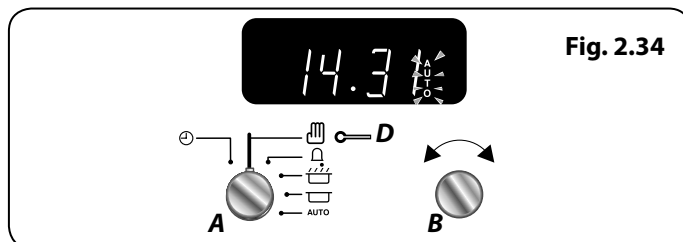

Fig. 2.34
5. Once the specified time has elapsed it will emit an alarm and the Multifunction Oven will stop working. The 'Cooking' symbol on the display will disappear and the word 'AUTO' will flash (**Fig. 2.34**).